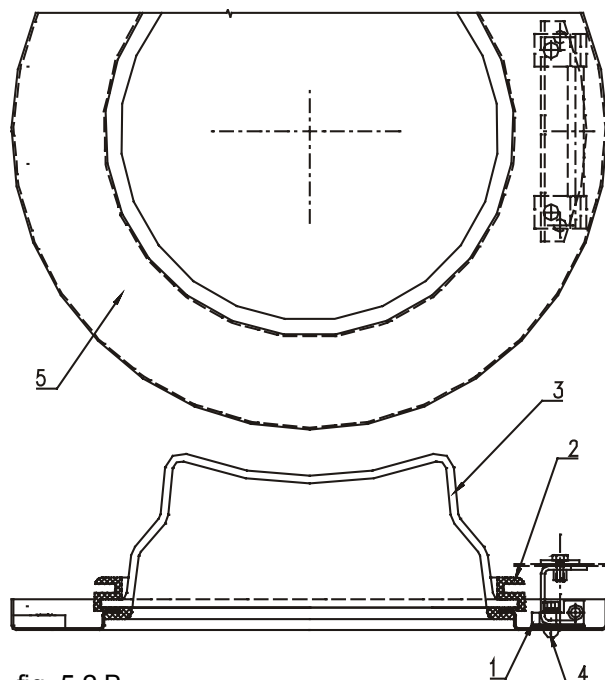

Fig. 5.2.A. Door fastening
1. Loosen two bolts (6) fastening the top door hinge (7), fig. 5.2.B.